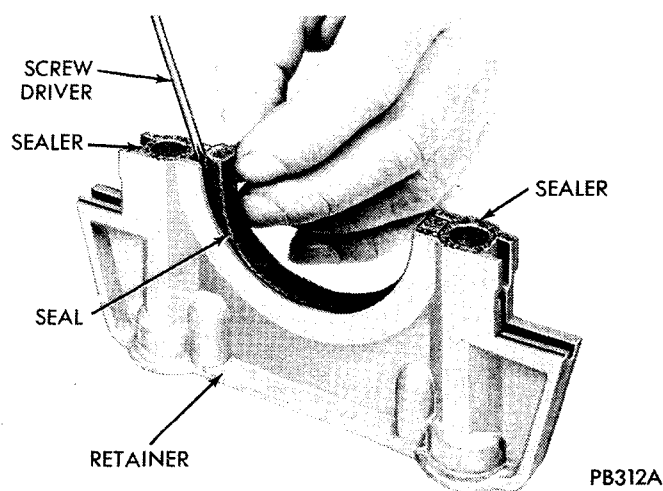

Fig. 42—Removing Lower Oil Seal From Retainer
(1) With oil pan removed, remove rear seal retainer and rear main bearing cap.
(2) Remove lower rope oil seal by prying from the side with a small screw driver (Fig. 42).
(6) Install other half of the seal into the lower seal retainer with paint stripe to rear.
(7) Install rear main bearing cap, tighten to 85 foot-pounds.
(8) Install lower seal retainer, tighten to 30 foot-pounds. **Do not use sealer or cement on seal ends or lip.** Apply small amount of gasket sealer to bottom of seal retainer, both sides (Fig. 42).